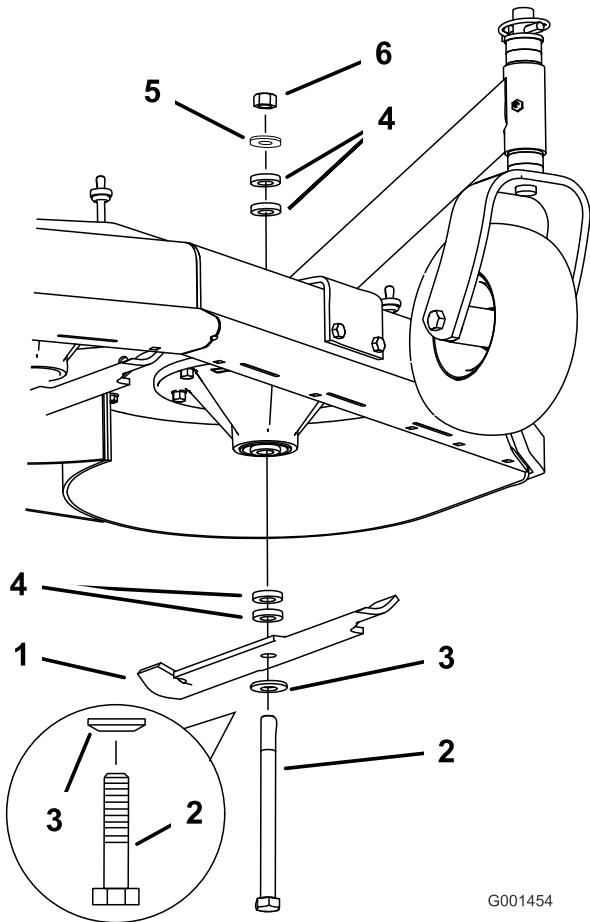

Figure 56
2. Remove the nut, blade bolt, curved washer, blade, spacers, and thin washer from the spindle (Figure 56).
1. Install the bolt, curved washer, and blade. Select the proper number of spacer(s) for the height-of-cut, and slide the bolt into the spindle (Figure 56). **Important:** The curved part of the blade must point upward toward the inside of the mower to ensure proper cutting.
2. Install the remaining spacer(s) and secure them with a thin washer and a nut (Figure 56).